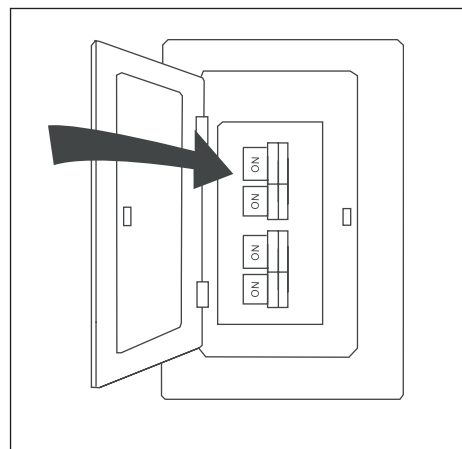

Figure 4.7
7. Turn on power to fan at breaker box and the wall switch. Assembly is complete (Figure 4.7).